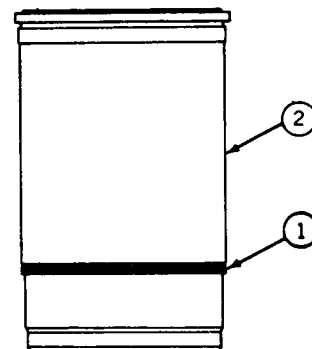

Fig. 10-Four Sided Packing Installation
Turn the cylinder liner (2, Fig. 10) upside-down and install the four-sided packing (1) over the outside of the cylinder liner. Slide the packing down firmly against the second shoulder on the cylinder liner. Make sure that the packing is not twisted.